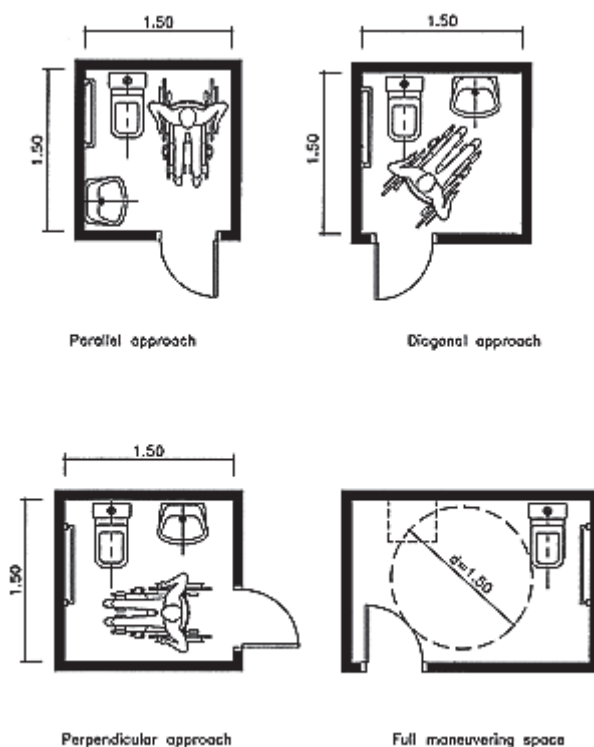

Fig. 5
- The size and layout of special rest rooms should comply with the minimum requirements (fig. 5).